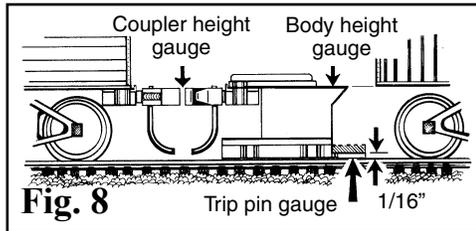
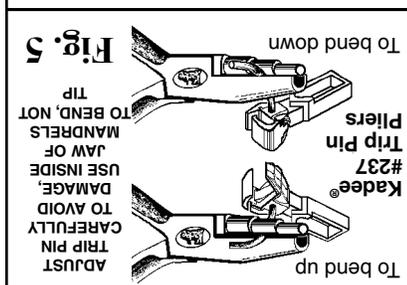

Fig. 8
Fig. 5
10. Coupler Height: Set height gauge on track and roll car with a coupler up to the gauge (Fig. 8). The coupler should be the same height as the coupler on the height gauge. If too low, or too high make adjustments as described above.
11. Check Coupler Trip Pin height by setting car on track and rolling car up to gauge. Trip Pin should just skim over top of the gauge. If Trip Pin is too high or too low, adjust as shown in Fig. 5. The standard S-Scale coupler trip pin clearance is 1/16" above rail top as shown in Fig. 8.
9. Set the height gauge on track and roll car without coupler up to the body height gauge (Fig. 8). The car underbody should just clear the top of the gauge. If underbody is too high, add shim(s) of appropriate thickness between coupler gear box and the mounting surface to lower the coupler. If too low, add shim(s) between truck and body bolster or cut out a space in the